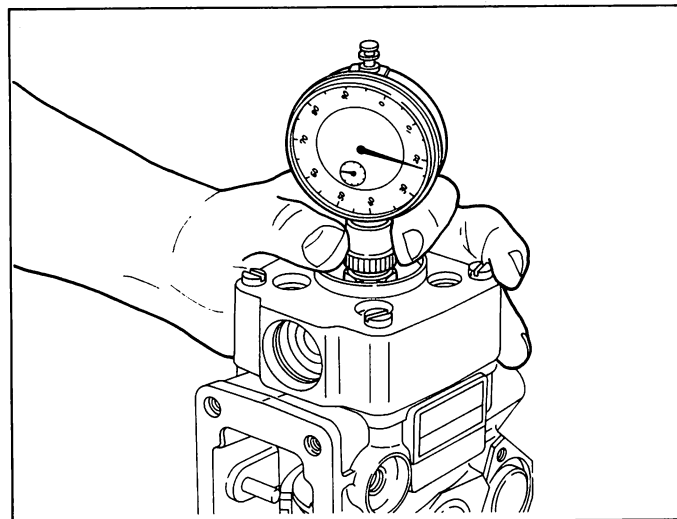

Fig. 65 Measuring the "K" dimension
3. Adjust the thickness of the shim (52) until the "K" dimension is as specified. (Fig. 65)